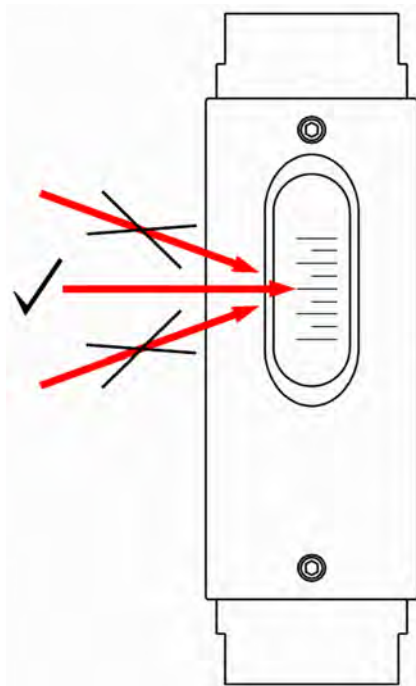

Fig. 34: Reading-off the measuring scale
2. ➔ To obtain greatest reading accuracy, read-off at eye level. (Fig. 34, middle arrow). The read-off value can be falsified by viewing at an angle